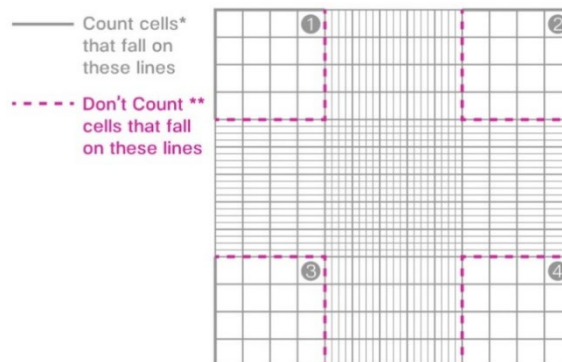

Figure 7. Hemocytometer
8. Count the cells using a manual hemocytometer (See Figure 7).